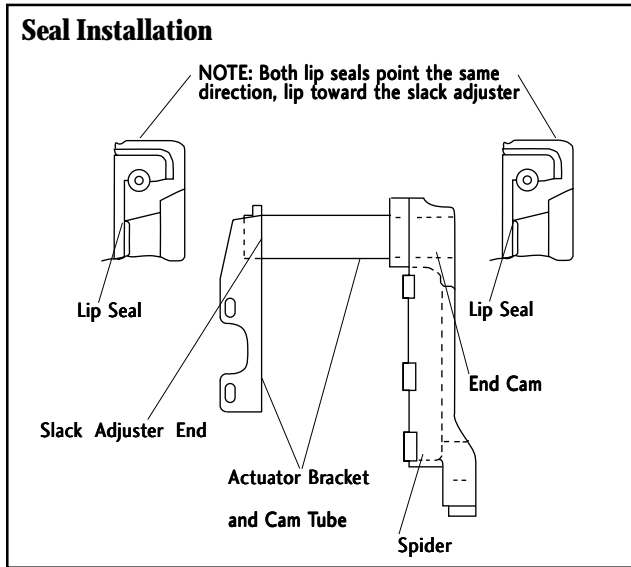

Figure 11
**CAUTION:** The lip of the grease seals must be installed correctly to prevent possible damage. The lip of the seal that is installed in the spider end must enter the opening first. The lip of the seal that is installed in the opposite end of the cam tube must enter last. See Figure 11. Install the chamber bracket and the cam tube assembly onto the spider using four cap screws and lockwashers. Torque to 70-80 Lb-Ft.